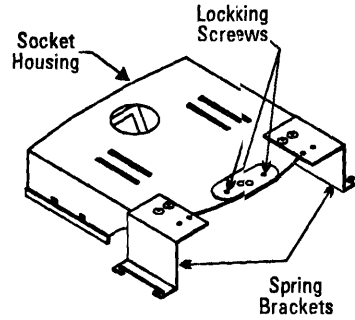

Fig. 2
- Compress the torsion springs on AFZ trim with both hands. It is recommended that one side of the trim be engaged first and then the other for easier installation. Engage one of the springs into the spring brackets located on either side of the socket casting as shown in Fig. 2. Do the same for the other spring.